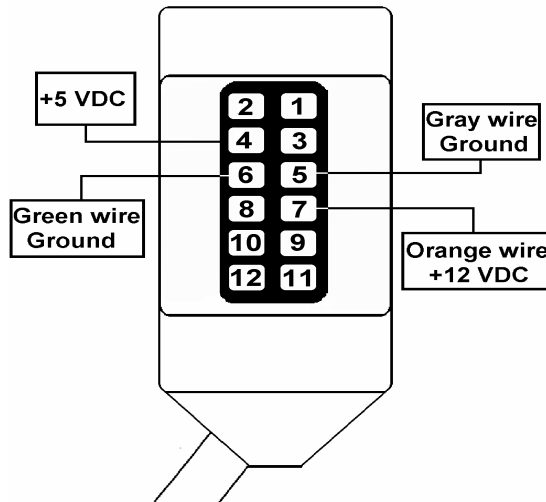

FIGURE 32 - TOUCHSCREEN CONNECTOR
7. Using a DVM in the resistance mode, check for continuity (resistance less than 2 ohms) between the metal game chassis and pin #8 of the Microtouch connector. See Figure 32 for location. If continuity is found, locate the ground ring on the touchscreen cable near the touchscreen glass. Cut the ground ring to remove it. **NOTE:** Do not cut the ground at the power connector end of the cable. Then insulate the exposed wire. **WARNING!!! Do not proceed with touchscreen controller installation until no continuity is found.** Check the continuity again. If no continuity is found, continue with the installation process.